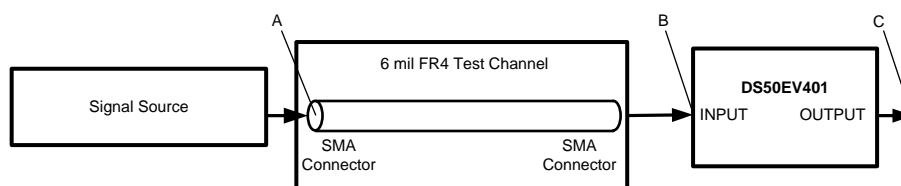

Figure 2. Test Setup Diagram
(4) V_{IN-S} is a measurement of the input differential envelope, see FR4 / BACKPLANE Typical Performance Eye Diagrams. The device does not require an open eye.
(5) Specification is ensured by characterization at optimal MODE setting and is not tested in production.
(6) Measured with clock-like {1111 0000} pattern.
(7) Specification is ensured by characterization at optimal MODE setting and is not tested in production.
(8) Deterministic jitter is measured at the differential outputs (point C of Figure 2), minus the deterministic jitter before the test channel (point A of Figure 2). Random jitter is removed through the use of averaging or similar means.
(9) Random jitter contributed by the equalizer is defined as sqrt(J_{OUT}² – J_{IN}²). J_{OUT} is the random jitter at equalizer outputs in ps-rms, see point C of Figure 2; J_{IN} is the random jitter at the input of the equalizer in ps-rms, see point B of Figure 2.